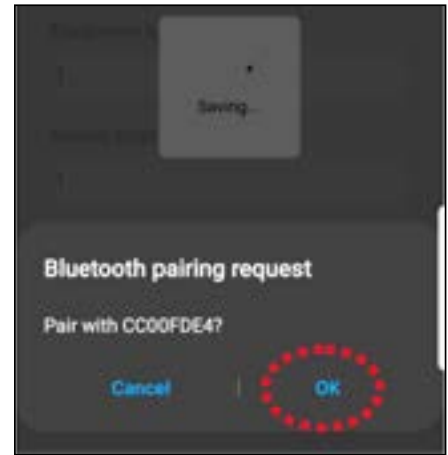

Figure 5
7. Pair the Chesterton Connect app to sensor unit using Bluetooth® (see figure 5).